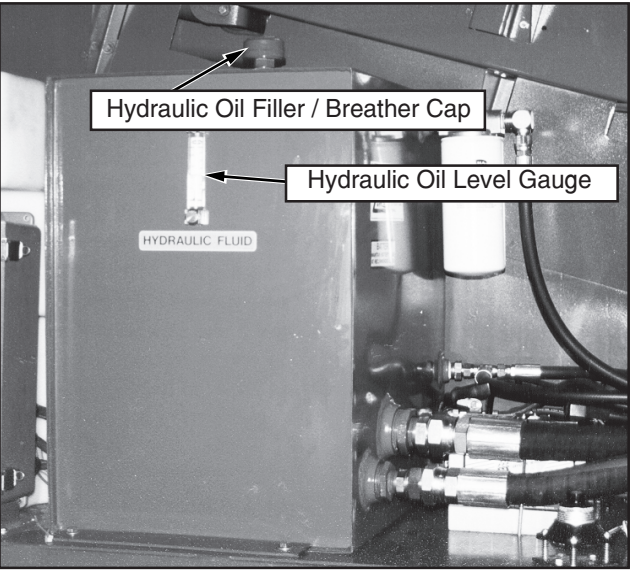

Figure 12: Hydraulic Oil Tank
- 1. Open left turret cover and check oil level at sight gauge with the boom stowed and retracted. Engine running or stopped. (see figure 12)